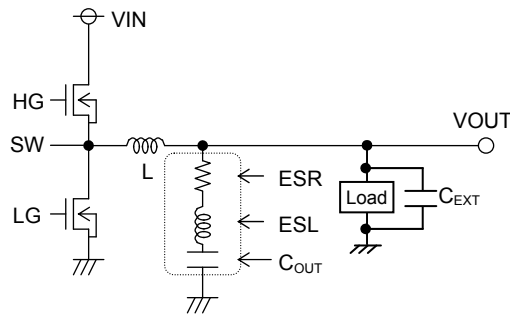

Fig.23 Output Capacitor
Also, give consideration to the conditions in formula (7) below for output capacitance, bearing in mind that output rise time must be established within the fixed soft start time. As output capacitance, bypass capacitor will be also connected to output load side (C_{EXT}, Fig.23). Please set the over current detection value with regards to these capacitance.